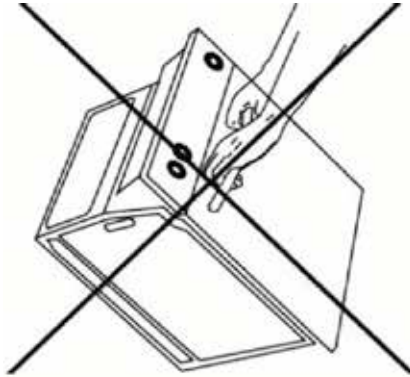

Figure 16
- Do not use the oven door handle to move the appliance, such as to remove it from the packaging. (See Figure 16)